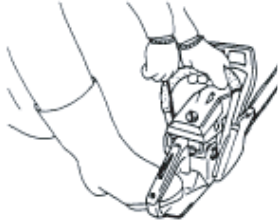

Fig. 13
- Pull recoil starter briskly, taking care to keep the handle in your grasp and not allowing it to snap back. (Fig. 13)
- Pull recoil starter briskly again in the aforementioned manner. (Fig. 13)